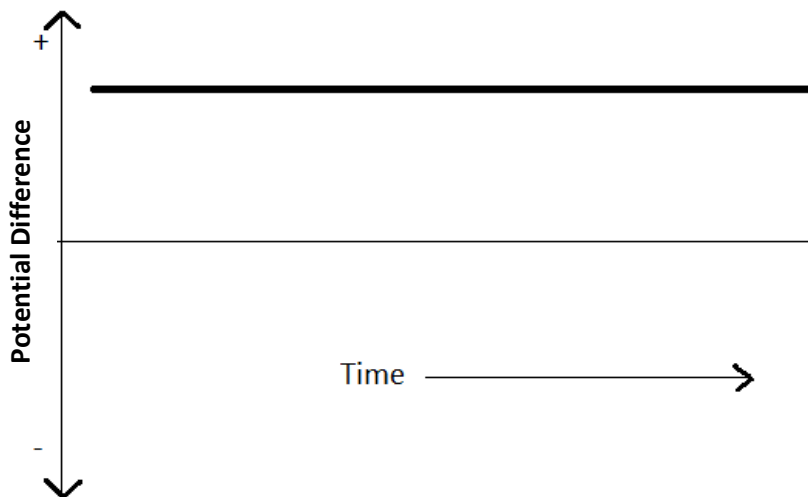

Figure 1.2: Movement of One Electron in a Conductor
- 1-10 A typical waveform for DC potential difference is shown in Figure 1.2. The graph is a straight, horizontal line, indicating that the potential difference does not change as time goes on.